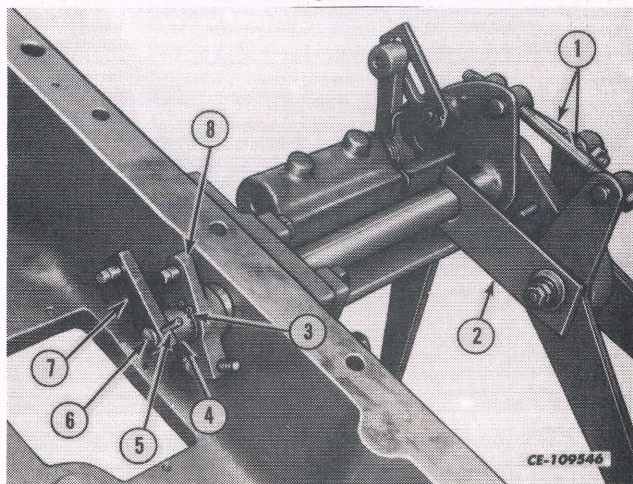

Fig. 14
18. Remove the variable flow valve assembly with position and draft control shaft as follows (See Fig. 14):
- a. Remove the inner retaining plate (2) and outer retaining plate from the control levers. Remove the Belleville washers.
- b. Remove the roll pin (5) from the load control shaft (6) and draft sensitivity control lever assemblies (7).
- c. Remove the load control shaft spacer (4).
- d. Remove the snap ring (3) from the slow motion actuating lever assembly (8) and positioning control lever.